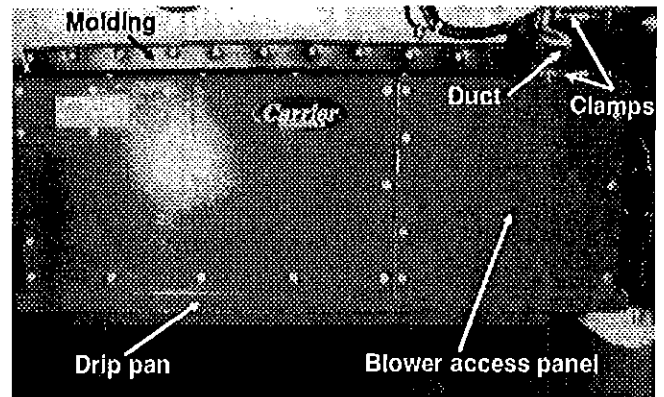

FIG. 11
8. Loosen the two clamps retaining the flexible air duct, then remove duct. Refer to figure 11.
9. Remove the twelve (12) screws retaining the molding on unit, then the molding.
10. Remove the two (2) nuts securing the retainer plate, then the plate.
2. Unfasten the six (6) latches securing the drip pan under the HVAC unit, then remove pan.
3. Remove the nine (9) bolts retaining the blower access panel (fig. 11).
5. From under the HVAC unit, note position of the two (2) wires on the motor terminal board, then disconnect wires.
6. Loosen and remove the four (4) motor bracket retaining bolts and washers, while supporting the motor to prevent it from falling. Note quantity and position of shims under motor bracket, then remove motor.